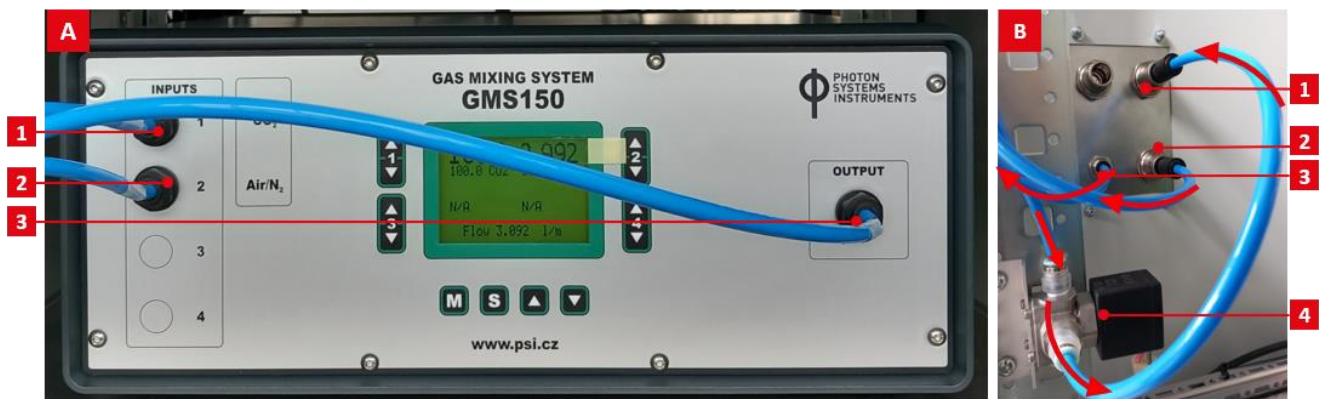

Fig. 27 GMS 150 installation.
1. Open front door of the Control rack and place the GMS 150 on the shelf. Connect power and communication cable in the device connectors on the rear side of device (Fig. 27-A). If the cables are not accessible, unscrew back panel of the Control rack to reach them. Switch on the device through the main switch on the rear side.
2. Connect gas tubing as shown on the following figure (Fig. 27-B).